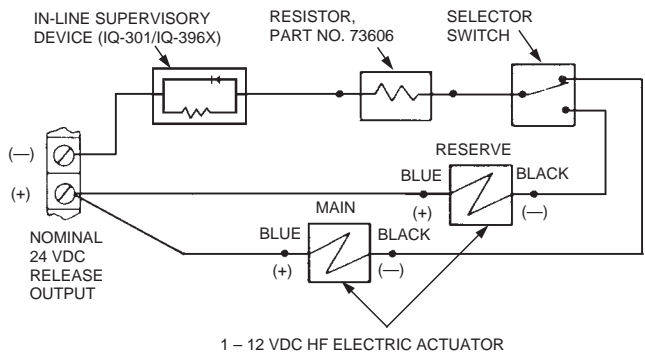

FIGURE 4
3. For main/reserve system applications, HF electric actuators (Part No. 73327) with in-line resistor, Part No. 73606, are required. Figure 4 shows a typical diagram for main/reserve actuator wiring to the release circuit of an AUTOPULSE control unit. Polarity must be observed when wiring this circuit. A selector switch is required for this circuit. The installation of an in-line supervisory device is required for many IQ-301/IQ-396X release circuits.